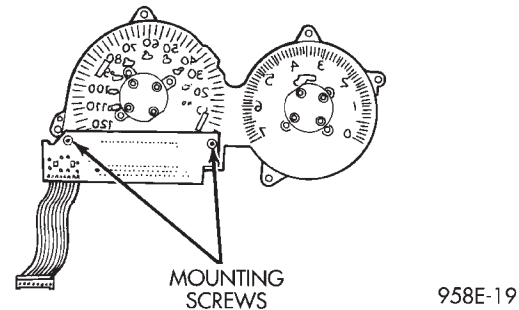

Fig. 13 Odometer/Transmission Range Indicator
- (1) Remove speedometer/tachometer, refer to Speedometer/Tachometer and Odometer Transmission Range Indicator Removal and Installation
- (2) Remove screws attaching from the back of speedometer and remove the odometer/transmission range indicator display (Fig. 13).
- (4) Remove screws attaching from the back of speedometer and remove the odometer/transmission range indicator display (Fig. 13).